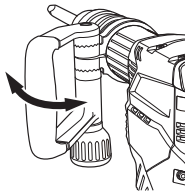
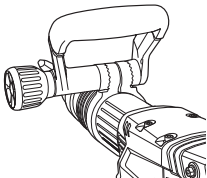
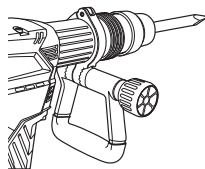

Fig. 5
Fig. 6
Fig. 7
(2) Adjust it to a position where vertical (up-and-down) operation can be facilitated as illustrated in Fig. 5, Fig. 6 and Fig. 7.
(3) Turn the grip in the direction of Ⓑ and fix the handle.